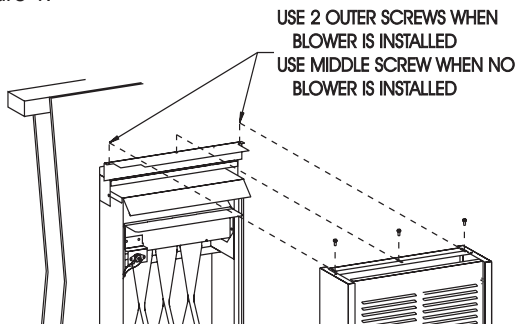

Figure 1
9. Attach outer casing to header assembly. **Attention:** The center clearance hole will not be used. The two outside clearance holes will be used to attach outer casing to header assembly, (1) screw from Step 4 and (1) screw supplied in hardware package. Refer to Figure 1.